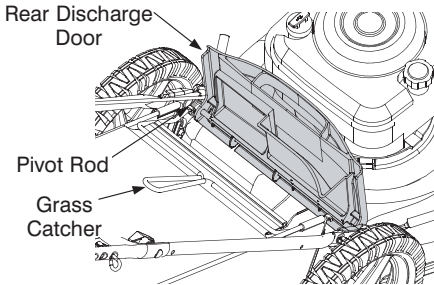

Figure 7
- Lift the rear discharge door on the mower, and place the grass catcher on the pivot rod. Let go of discharge door so that it rests on the grass catcher. See Figure 7.
- Lift the rear discharge door on the mower as shown in Figure 7. Lift the grass catcher up